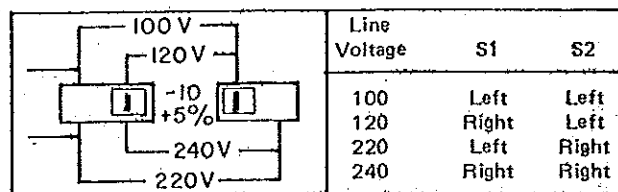

Figure 3-5. Line Selector Switches.
- Refer to Figure 3-5. Set the rear panel Line Selector switches to the setting that corresponds with the line voltage to be used. Line voltage must be within -10% to +5% of the selected voltage setting. Line frequency must be within the range of 48 Hz to 440 Hz.